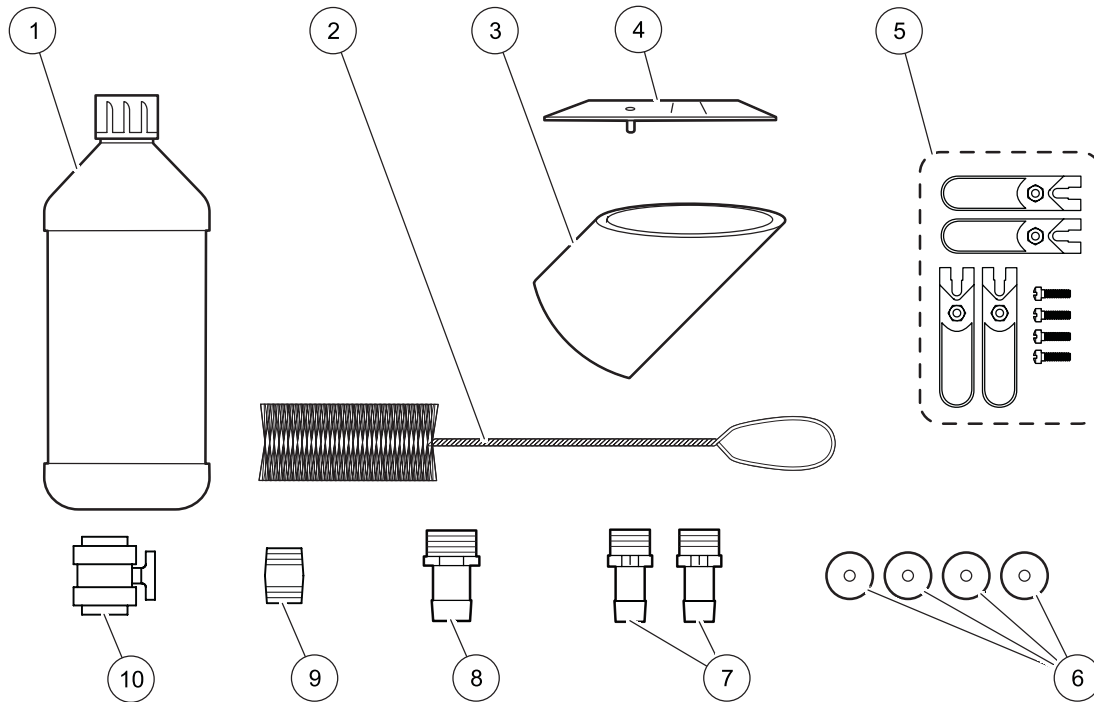

Figure 6 Installation kit items¹
- Installation kit items (Figure 6)